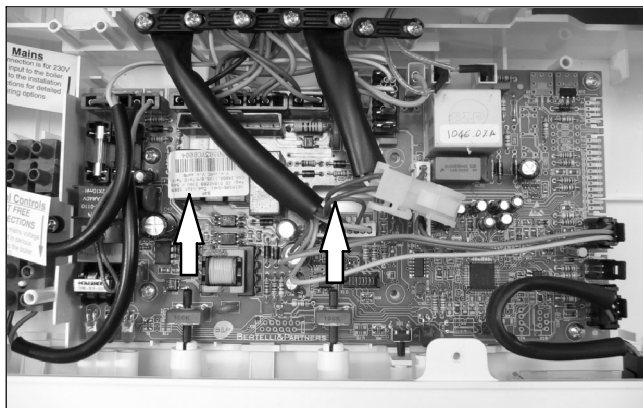

Fig. 23
- 3 Remove the spindles of the c.h. and d.h.w. temperature adjustment knobs by delicately pulling them with pliers in the direction shown by the arrows in Fig. 23.